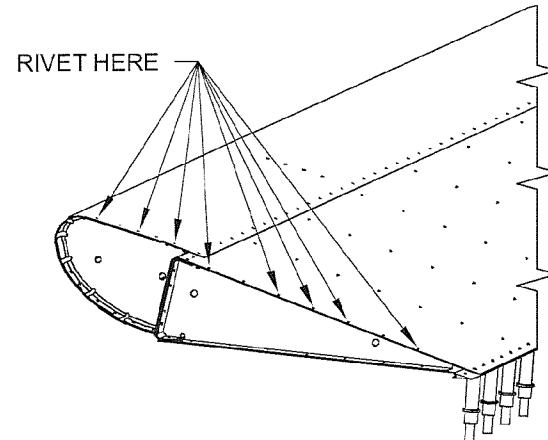

FIGURE 3: RIVET END RIB LOWER FLANGES
Step 4: Turn the aileron over on it's now completed top. Install the remaining A-1015-R Inboard Nose Rib to A-1001A-L Nose Skin rivets as shown in Figure 3. Install the remaining A-1005-L Main Rib to A-1002 Bottom Skin rivets.